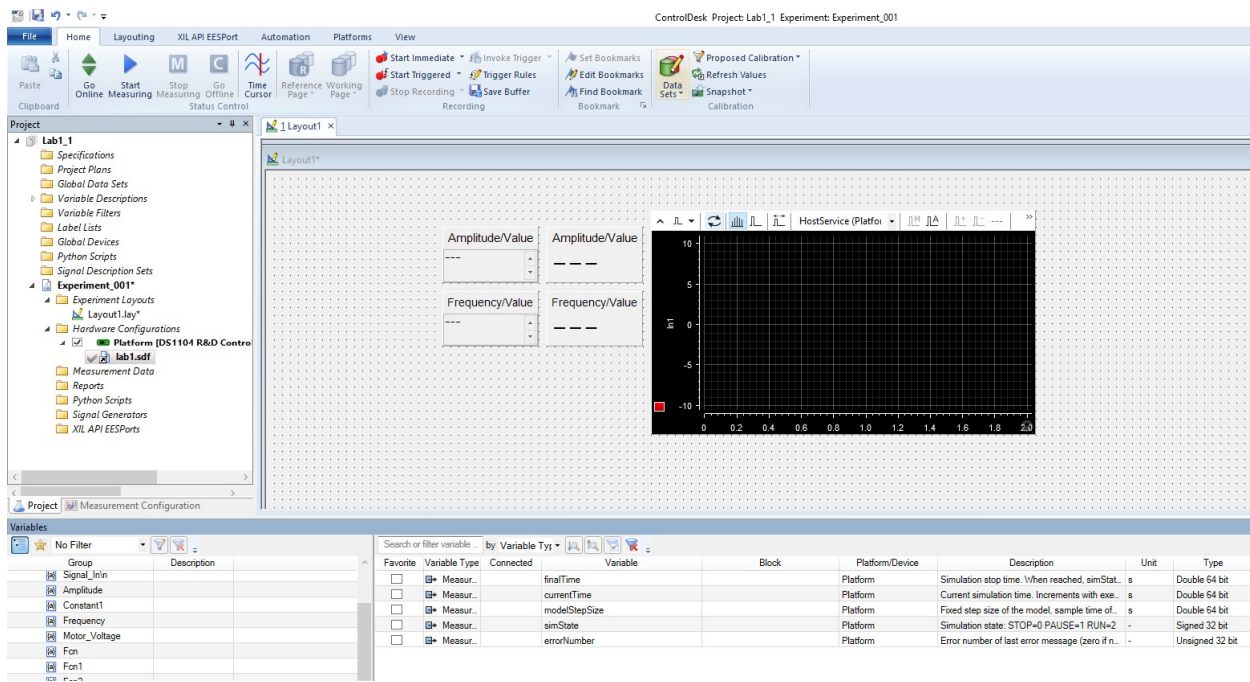

Figure 14: Overall view of the layout window
- c. Click on the name of the **To Workspace** block, named **Signal Out** in this tutorial, and drag and drop the parameter **In1** to the plotter in the layout window. This will display the signal being output from DACH1, a sine wave. The layout window should look like Fig. 14. Note that the plotter window may not look exactly the same.